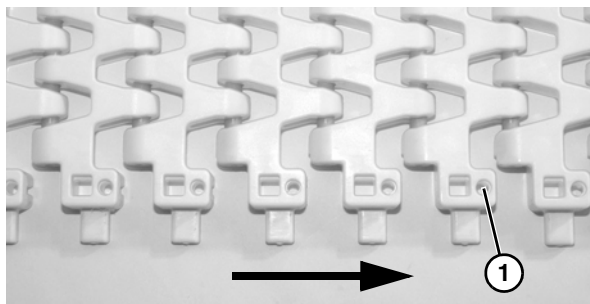

Figure 13
Ensure the belt is running in the correct direction, with hole (Figure 13, item 1) towards conveyor motor.